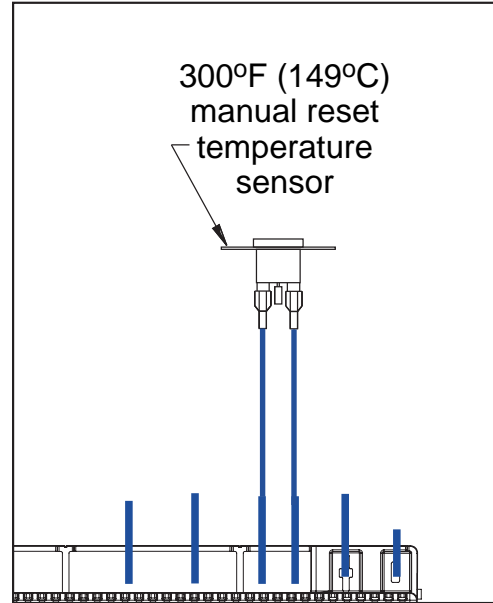

Figure 51: Spill Switch Wiring Diagram
Step 5: Insert the stripped spill switch wires into the ON/OFF terminal block and tighten the set screws. Note, there is no polarity to the spill switch wires so it will work in either position of wires (Figure 51).